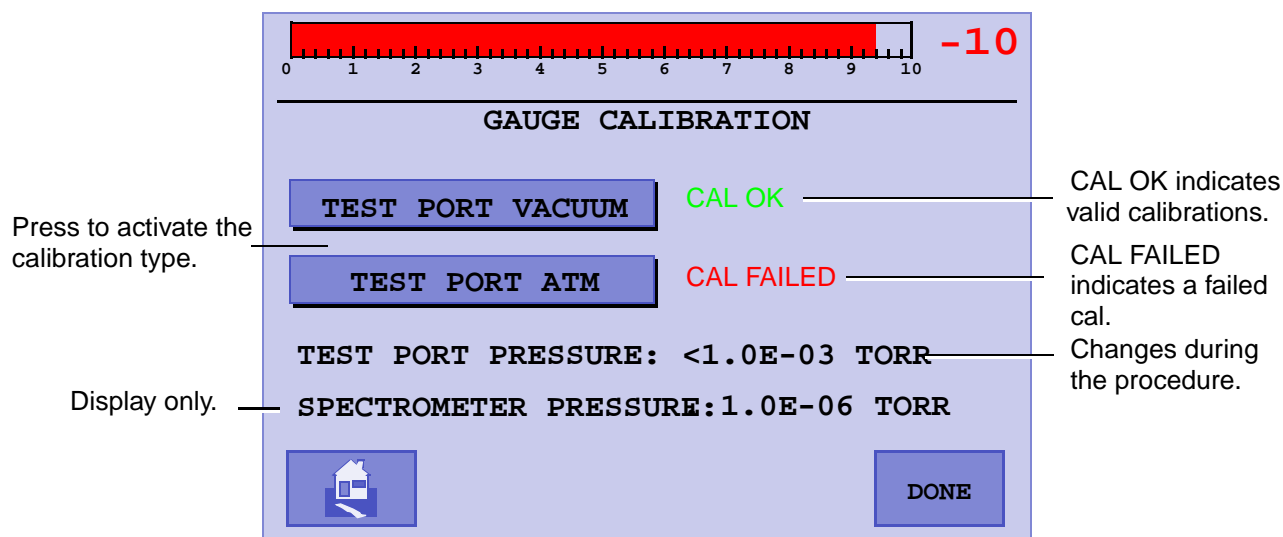

Figure 3-13 Gauge Calibration
- Press **Gauge Calibration** on the Set-Up screen and the Gauge Calibration screen appears (Figure 3-13).
2. Wait approximately ten seconds for the test port pressure to stabilize, then move to the Gauge Calibration screen (Figure 3-13 on page 3-17).